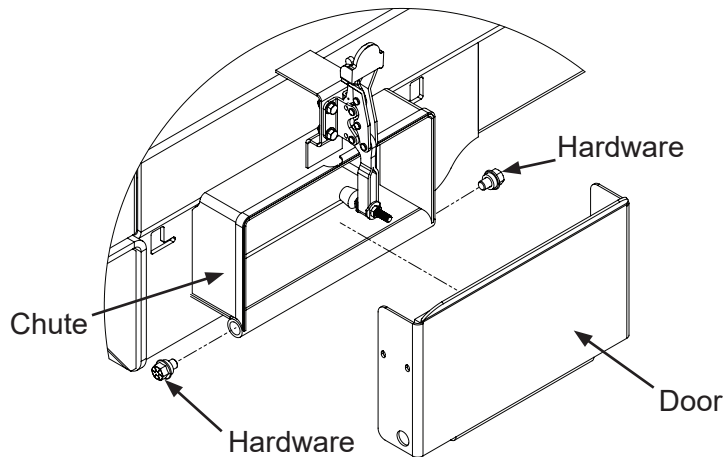

Figure 3
5. Remove and retain the existing hardware, spacers, and door from the cleanout chute using a 3/4" wrench (Figure 3).